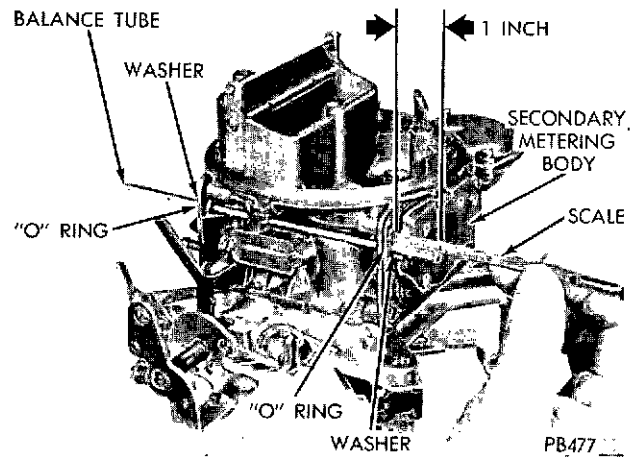

FIG. 43 Adjusting Balance Tube Model 4160
- A. Install balance tube into main body. **CAUTION: Install new "O" rings and washers at each end. Be sure "O" rings and washers are seated in recesses on both primary and secondary side (Figure 43); otherwise fuel leakage will occur.**
- C. Position balance tube so that only 1" extends beyond the secondary metering body (Figure 43).